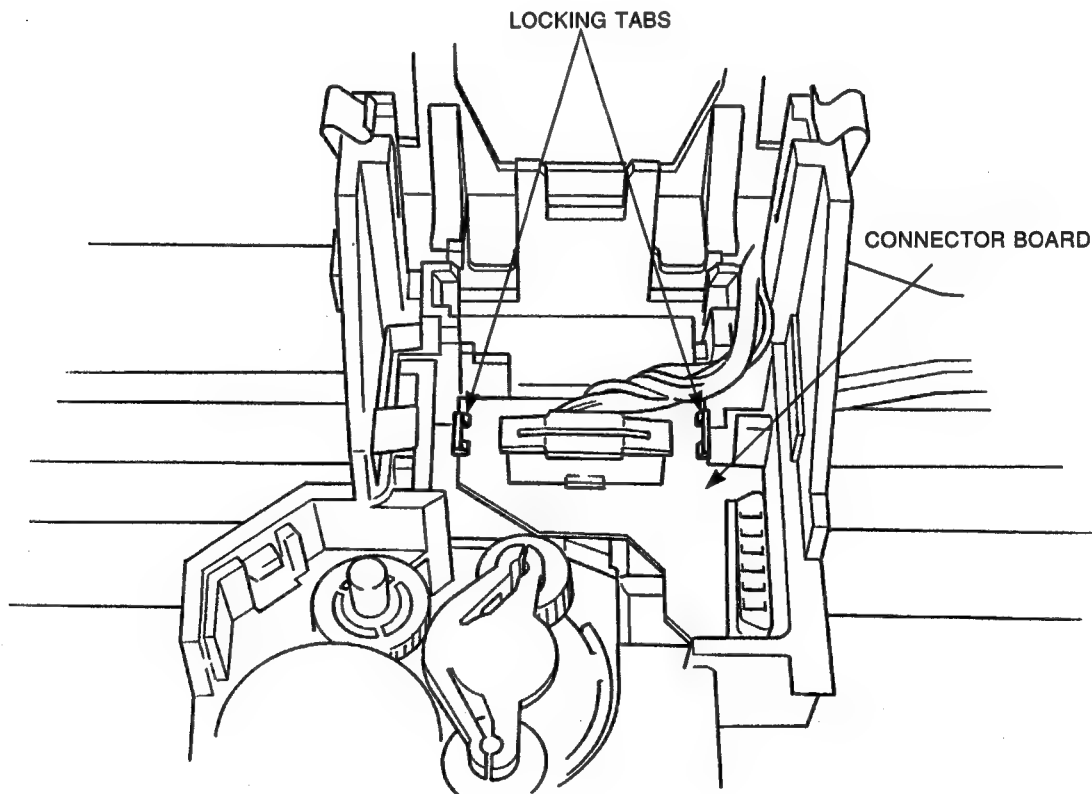

Figure 3-18 Connector Board
2. With a screwdriver blade, unlock the two locking tabs and lift the connector board out of the carrier (see Figure 3-18).